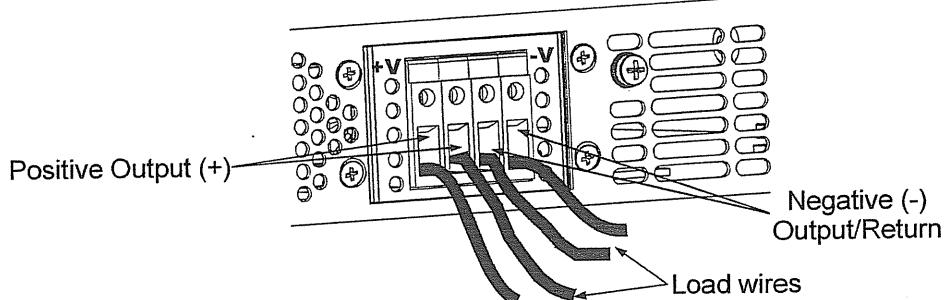

Fig.3-7: Load wires connection to the output connector
- Insert the stripped wires into the terminal and tighten the terminal screw securely (see Fig.3-7)